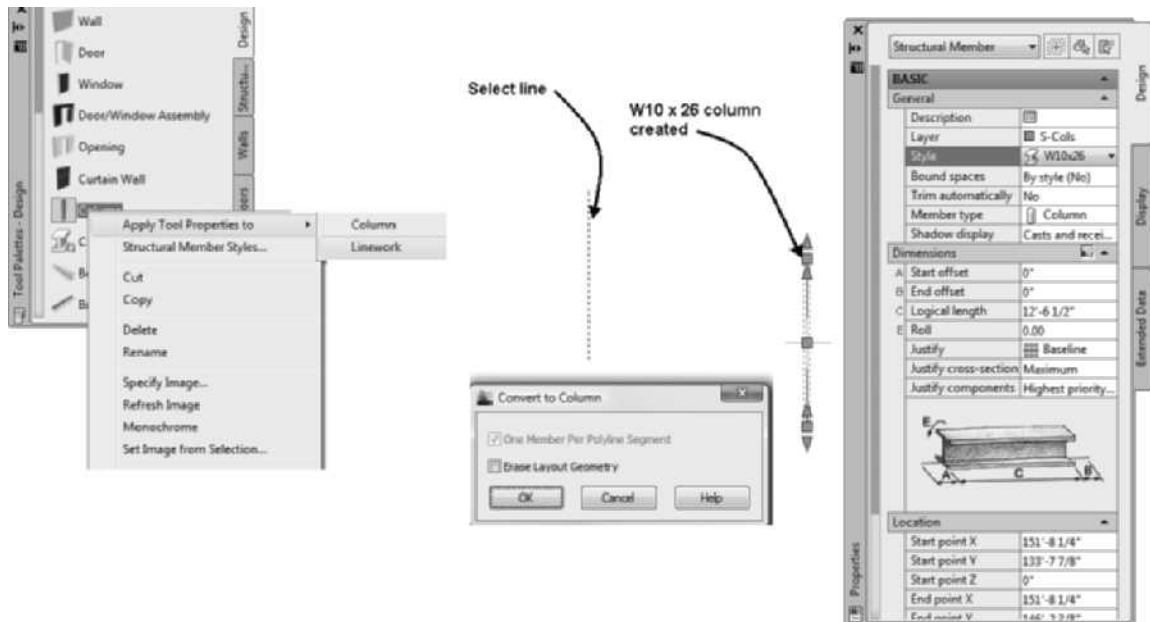
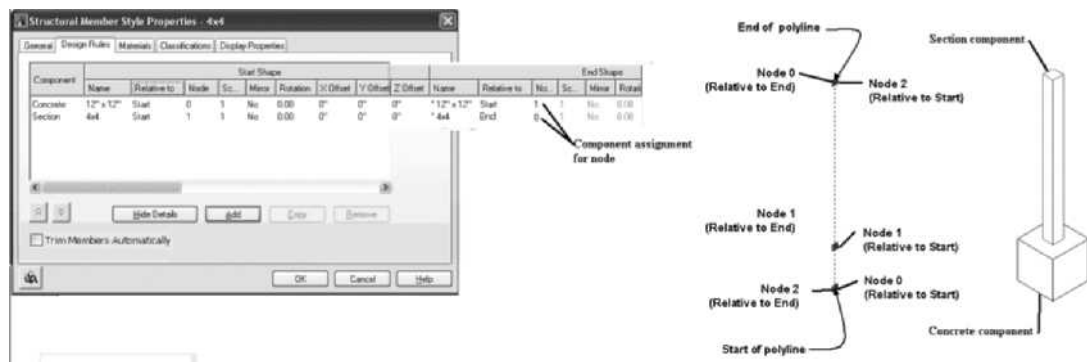

FIGURE 13.13 Line converted to W10 × 12 structural style
FIGURE 13.14 Polylines converted to members and the Structural Member Style Properties dialog box
The ColumnToolToLinework command allows you to draw in elevation or pictorial views lines, arcs, or polylines and convert the geometry to a structural member. The following workspace sequence converted a line shown in the front view of Figure 13.13 to a column.
- Select lines, arcs, or open polylines to convert into members: 1 found (Select linework as shown in Figure 13.13.)
- (Edit the Properties palette to specify the column type as shown in Figure 13.13.)
If you draw a polyline to represent the column, you can assign various structural shapes to each segment of the polyline. The polyline drawn in Figure 13.14 consists of a lower segment 12" long and an upper segment 4' long. The lower segment is converted at the right to a 12" × 12" concrete shape in the Design Rules tab of the Structural Member Style Properties dialog box shown in Figure 13.14. The upper segment is converted to a 4 × 4 wood shape. A node has been assigned to the vertex of the polyline. A shape can be defined to start and end at the node specified relative to the start or end of the polyline in the Design Rules tab as shown in Figure 13.14. The ColumnToolToLinework tool allows you to convert the polyline to a column that applies the shapes defined for the nodes. When creating the column, you must clear the **One Member Per Polyline Segment** checkbox of the **Convert to Column** dialog box shown in Figure 13.13.